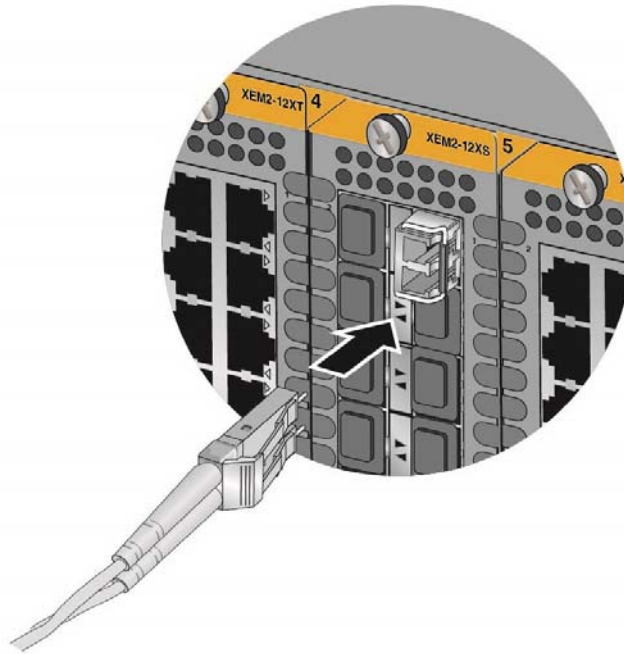

Figure 88. Connecting a Fiber Optic Cable to an SFP or SFP+ Transceiver
5. Connect the fiber optic cable to the transceiver, as shown in Figure 88 on page 122. The connector on the cable should fit snugly into the port, and the tab should lock the connector into place.